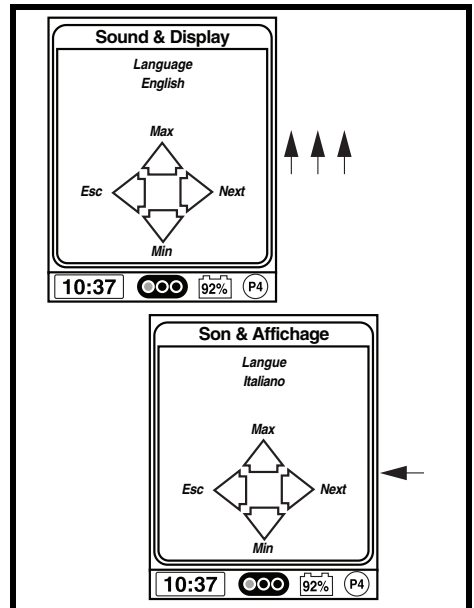

Figure 14. Language Screen
6. Push the joystick up until the desired language is displayed. See **figure 14**.